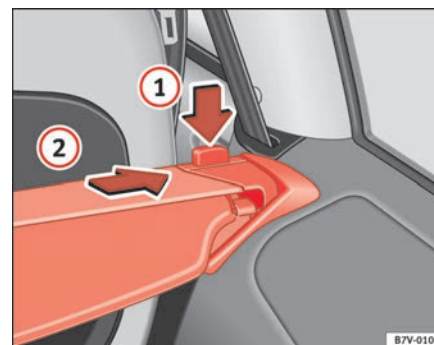

Fig. 114 Luggage compartment cover:: holders on the right
- Press the unlock button (with the luggage compartment cover rolled up) ⇒ page 147, fig. 114 ① in the direction of the arrow and remove the cover from the right holder upwards.
- Remove the cover from the left holder in the direction of the arrow ② and remove from the vehicle.